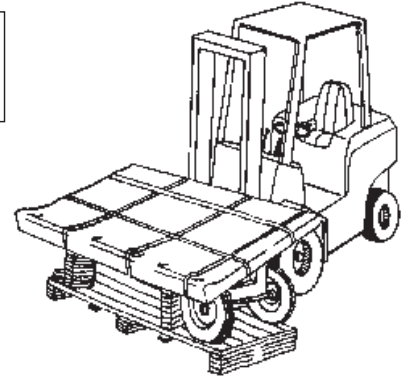

Fig.3
**WARNING:** It is obligatory to use a lift truck to transport the slab carrying trolley (Fig.3).